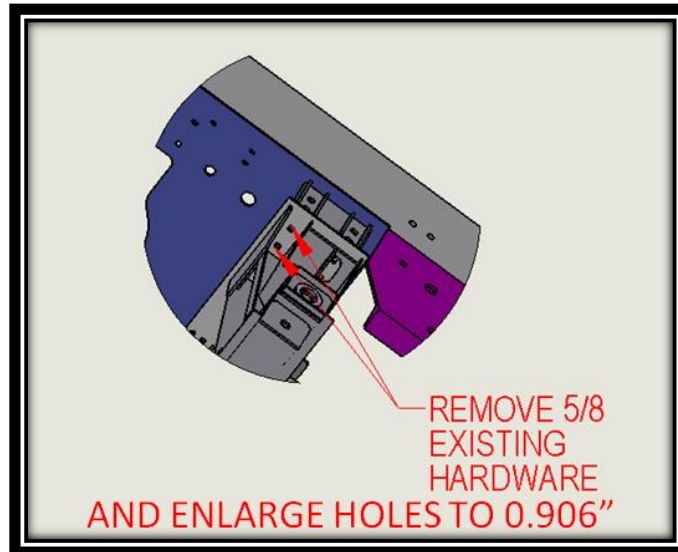

FIG. 5-1
4. Remove and properly dispose of existing 5/8" hardware shown below. Enlarge holes for suspension hanger and suspension mount .781 dia. Refer to FIG. 5-1.